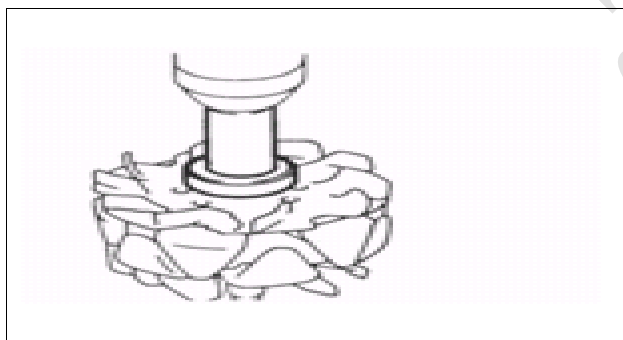

Figure 431
- Use a special tool and a pressing device to press in a new bearing (see Fig. 431).